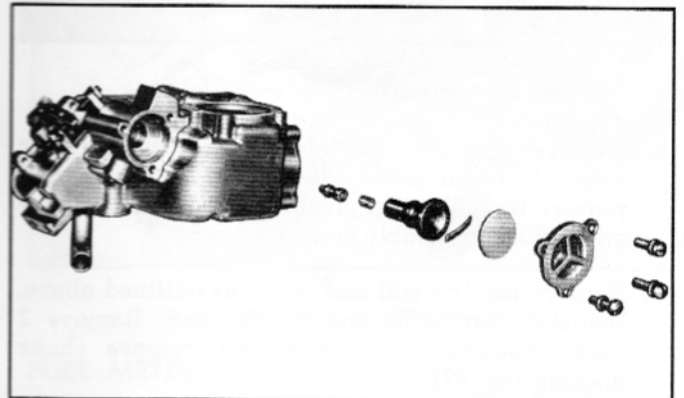

Fig. 65—Installing Spill Plunger Assembly
- Reverse removal procedure, Steps 1 thru 3, to install valve and sleeve assembly (fig. 65).